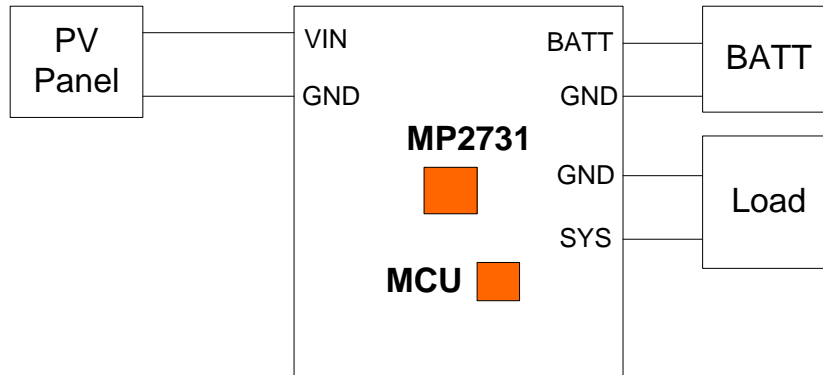

Figure 1: Set-Up for MPPT System
1. Connect the PV panel to the input port (see Figure 1).